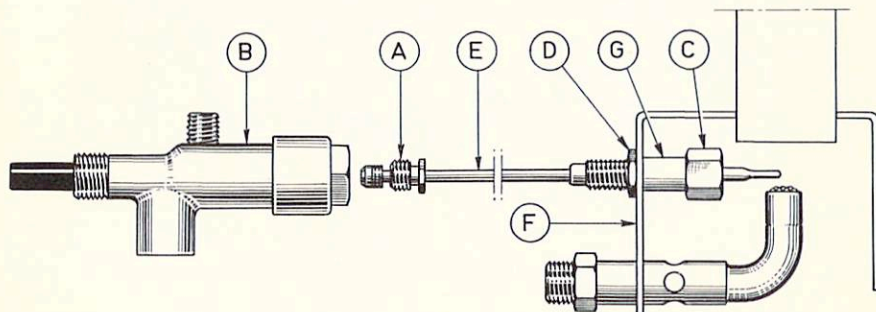

Fig. 4
- a. Jet orifice clogged. Disengage gas pipe from burner. Unscrew nipple (26) with jet (5) and blow clear and wash in alcohol. Do not use wire or pin to clean orifice.
- c. Flame has gone out. Remedy: 1) Gas in bottle is used up — refill. 2) Feeler point of the flame failure device is not heated enough by flame — check against the fig. 4. 3) Clogged by-pass screw (8) — clean or exchange it.
(Fig. 4)
6. Tighten the lock nut D against the holder with a spanner, if necessary holding nut C with another spanner. Make sure the feeler is located as in fig. 4.